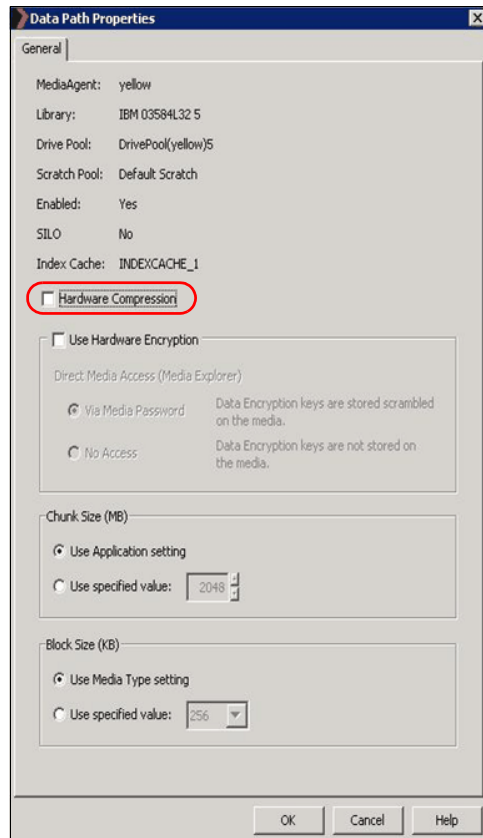

Figure 18-16 Disable hardware compression
4. Ensure that the **Hardware Compression** check box is clear (Figure 18-16).